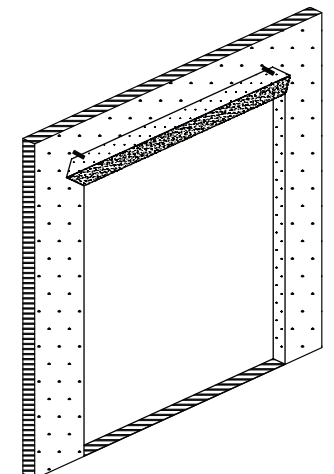

Figure 4
- D) Finally, cut two slits in the WRB at the head corners that angle 45 degrees away from the center of the opening. Each cut should be long enough to ensure that the WRB will fold over the entirety of the later-applied head flashing. Fold the WRB upward as shown and temporarily fasten with tape. **See Figure 4**